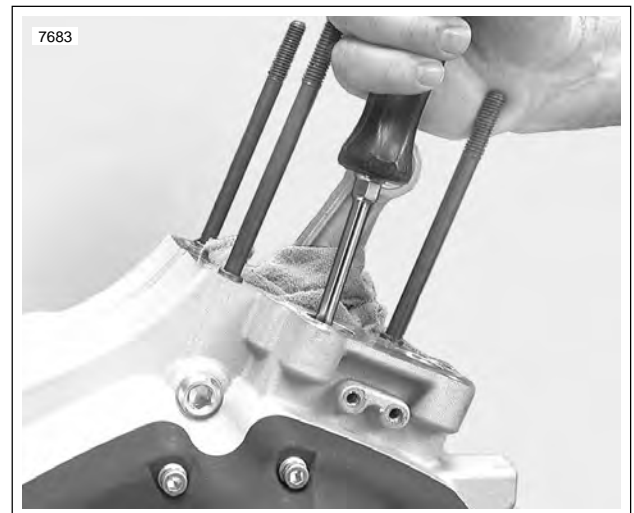

Figure 3-113. Checking Cam Gear End Play
6. See Figure 3-113. Check cam gear end play for each cam gear as follows: